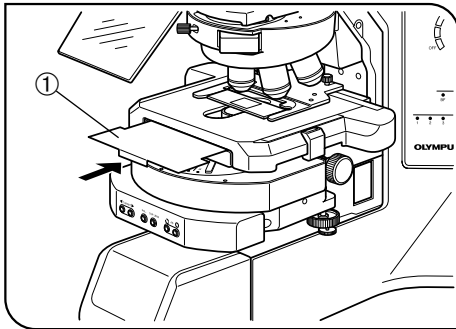

Fig. 4
- If the U-excited reflected fluorescence observation is performed with the 10X or 20X objective while the condenser is set in the observation position, flare may be noticeable with certain specimens. If the transmitted DIC observation is not required, lower the condenser or use the light shield sheet ① provided with the vertical fluorescence illuminator. (Fig. 4).